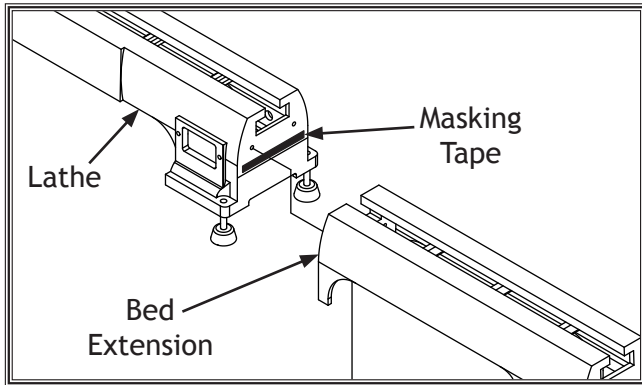

Figure 3. Shimming bed extension up.
- If bed extension tilts down, use masking tape along bottom edge of lathe to shim bed extension up (see **Figure 3**).